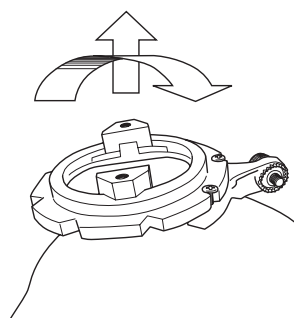

Figure 9. Lift and rock the ring to ensure all attachment screws are tight.
6. Lift and rock the Nexframe ring to ensure all attachment screws are tight and no motion is felt (Figure 9).